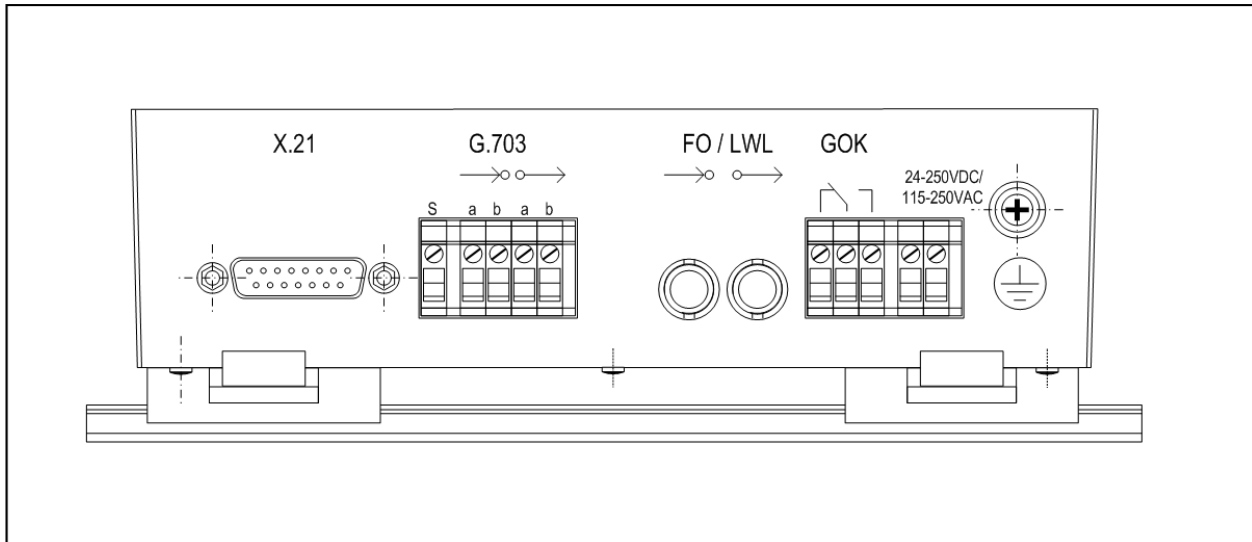

Figure 14 Interfaces and connections
The following interfaces and connections are located on the device side (Figure 14):
- Insert the cable with the socket into the DSUB-connector X.21 of the CC-XG. In figure 14 you can see where the interface connector is located. The figure 17 shows the connection assignment on the DEE connection of the CC-XGs.